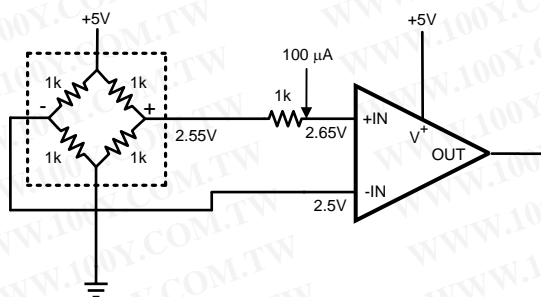
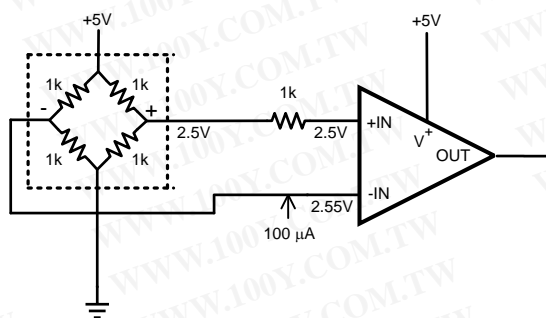

Figure 59. Degraded Input Line, Step 1
Figure 60. Degraded Input Line, Step 2
Figure 59 shows an example of a degraded connection between the bridge and the +IN pin of the LMP8358. This fault is shown by the 1 kΩ resistor placed between the bridge and the LMP8358. To detect this fault use the 1/50 feature by setting MUX[1:0] to 10b to test the +IN pin, POL to 0b, and G[2:0] to 010b for a gain of 50. This will give an overall gain of 1. Set CUR[2:0] = 101b to inject a 100μA current and read the output voltage (5082x). Next set MUX[1:0] to 11b and PIN to 1b to test the -IN pin as shown in Figure 60 and read the output (58C2x). If the voltages of these two measurements are different a degraded input fault exists.
* The values shown for a degraded input line will vary depending on the resistance in the line. This table uses the value in Figure 59 and Figure 60, 1kΩ.